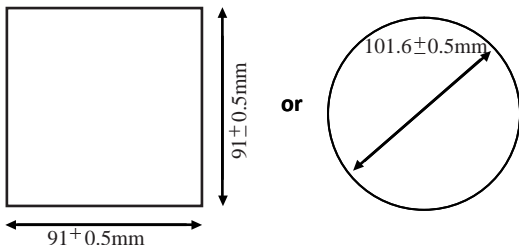

Figure 2: Recommended panel cut-out.
- a) Insert the power meter through a 91mmx91mm or 101.6mm radius hole as shown in figure 2 below: